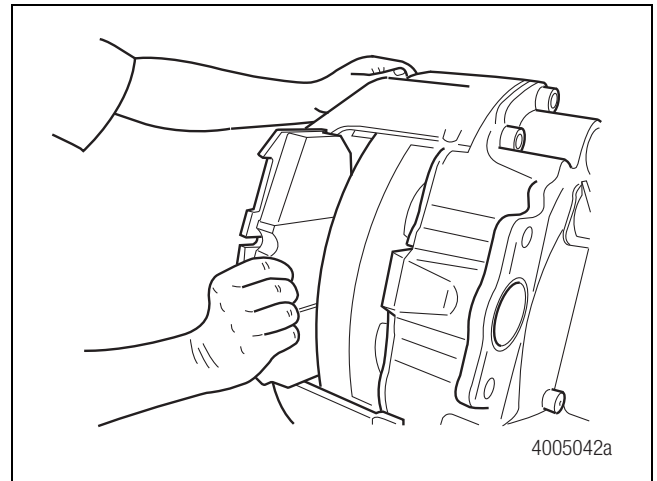

Figure 4.8
4. Remove the outboard brake pad from the caliper assembly and mark the brake pad "outboard". Figure 4.8.